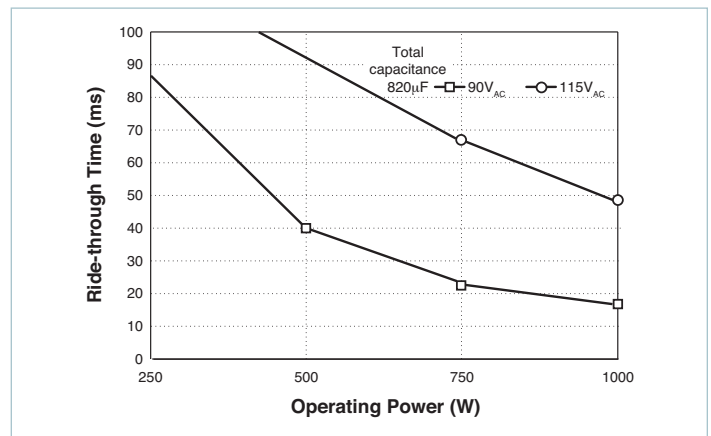

Figure 8.9 — Ride-through time vs. operating power
**Determining Ride-through Time:** Figure 8.9 illustrates ride-through time as a function of line voltage and output power and shows that at a nominal line of 90VAC, ride-through would be 68ms. Ride-through time is a function of line voltage.